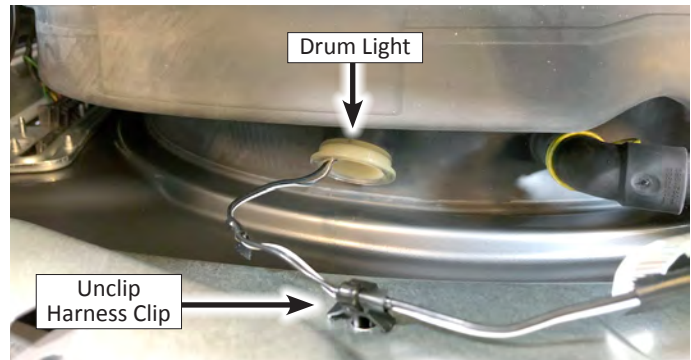

Figure 2
7. Open the washer door and push the drum light out of the top of the bellows. See Figure 2.